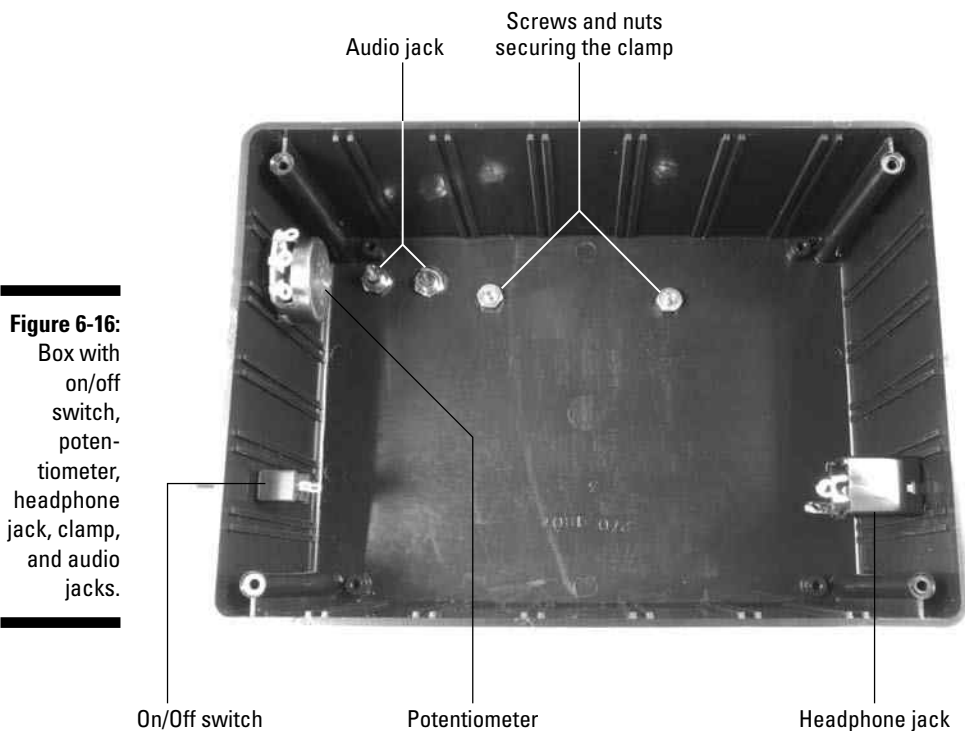

Figure 6-16:
1. Drill holes in the box where you will mount the potentiometer, audio jacks, headphone jack, clamp, and on/off switch, as shown in Figure 6-16.